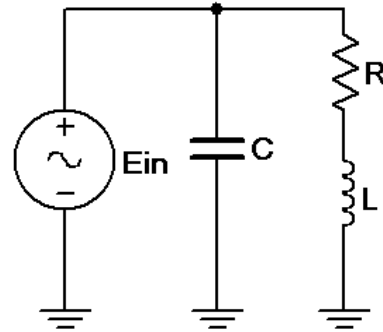

Figure 8.2
7. Using Figure 8.2 with a 10k Hz sine wave at 10 V p-p,  $R=1\text{ k}\Omega$ ,  $L=10\text{ mH}$ , and  $C=10\text{ nF}$ , determine the theoretical inductive and capacitive reactances, series branch impedance and total circuit impedance, and record the results in Table 8.3. Using Ohm's law compute the capacitor and inductor-resistor currents along with the input current and record them in Table 8.4.
8. Build the circuit of Figure 8.2 using  $R=1\text{ k}\Omega$ ,  $L=10\text{ mH}$ , and  $C=10\text{ nF}$ . Insert a  $10\ \Omega$  current sense resistor at the bottom of the LR leg and another at the bottom of the capacitor leg. Set the generator to a 10 kHz sine wave and 10 V p-p. Make sure that the *Bandwidth Limit* of the oscilloscope is engaged for both channels. This will reduce the signal noise and make for more accurate readings.
4. In general, how would the phasor diagram of Figure 8.2 change if the frequency was lowered?